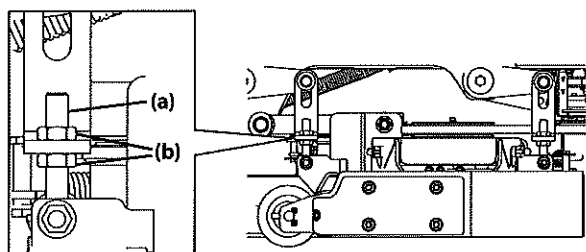

Figure 27
3. Adjust the eyebolt (a) at the left front of the deck so that the blade-to-ground height at the right outside blade tip matches that of the left outside blade tip. This is done by loosening the jam nuts (b) on the eyebolt (a) and tightening the upper jam nut (b) to raise the deck and loosening the jam nut (b) to lower the deck. The right outer blade tip height is fixed by the right, front eyebolt (a) so you must adjust the left outer tip to match it. See Figure 27.
3. Loosen the jam nuts (b) at the rear left and right of the deck eyebolts (a). Refer to Figure 27.